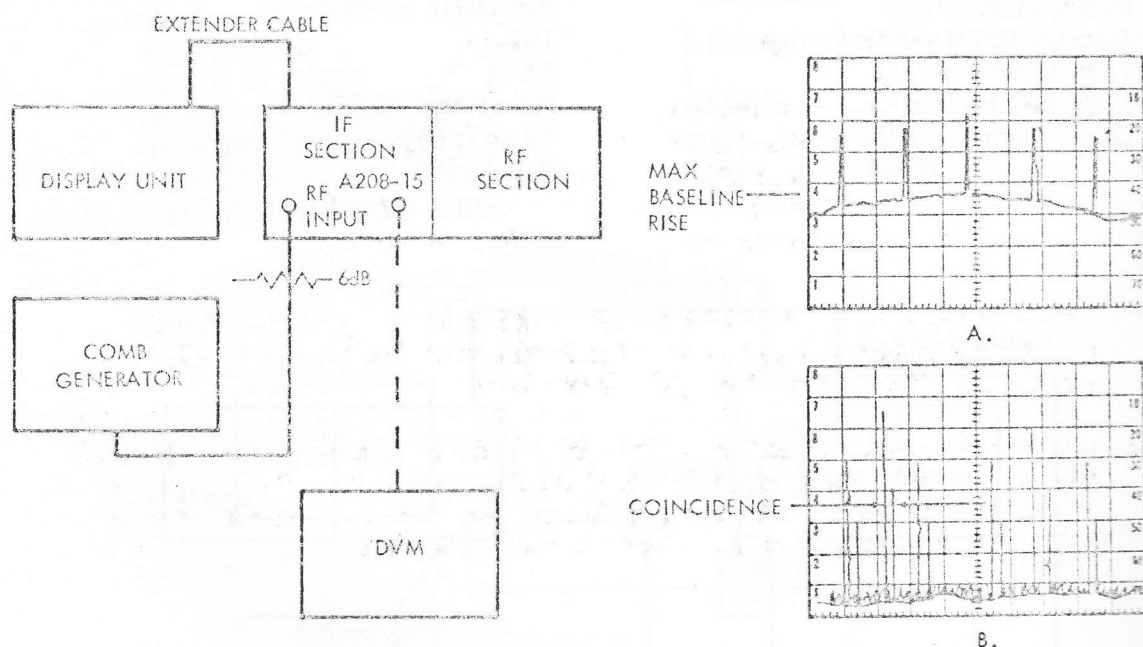

Figure 7-7. Y202 Second L.O. Test Setup
7-3.2.1.5 Second L.O. (Y202) Frequency. Connect digital voltmeter and comb generator (table 7-1) as shown in figure 7-7. Set controls as follows:
- (1) Check A208 pin 15 for -13.02 to -12.98 VDC. Adjust A208R41 if necessary.
- (2) With above settings, adjust FINE TUNE control for maximum baseline rise (A, figure 7-7). In the steps which follow, do not vary FINE TUNE control.
- (3) Set BAND SELECT to 1, FREQUENCY TUNE to 260 MHz, SCANWIDTH/DIV to 20 MHz, IF ATTEN - dB to 20 dB, Comb generator to 100 MHz. Adjust BASELINE BLANKING control to take out noise.
- (4) Adjust 2nd L. O. tuning slug to obtain coincidence between short and tall lines of comb (B, figure 7-7). Loosen locknut, adjust tuning slug, tighten locknut.